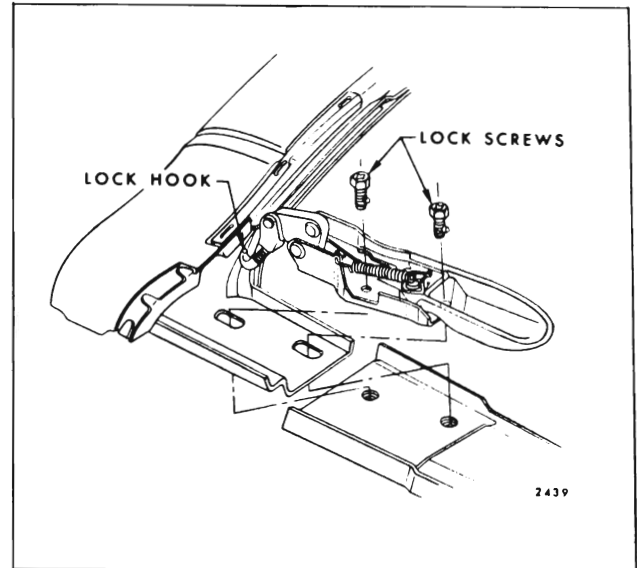

Fig. 13-80 — Lock Attachment
2. Loosen side roof rail lock attaching screws and adjust front roof rail fore or aft as required. Repeat on opposite side if necessary (Fig. 13-80).
2. With top in a half-open position, remove lock attaching screws; then, remove lock assembly from front roof rail (Fig. 13-80).